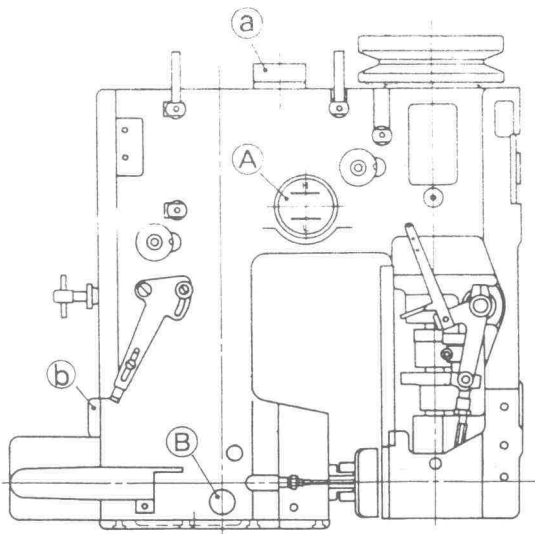

Fig. 2
- Remove cover b and fill with oil so that level reaches the 'red point' indicator B. Approximately 140 cc should be used (Fig. 2)